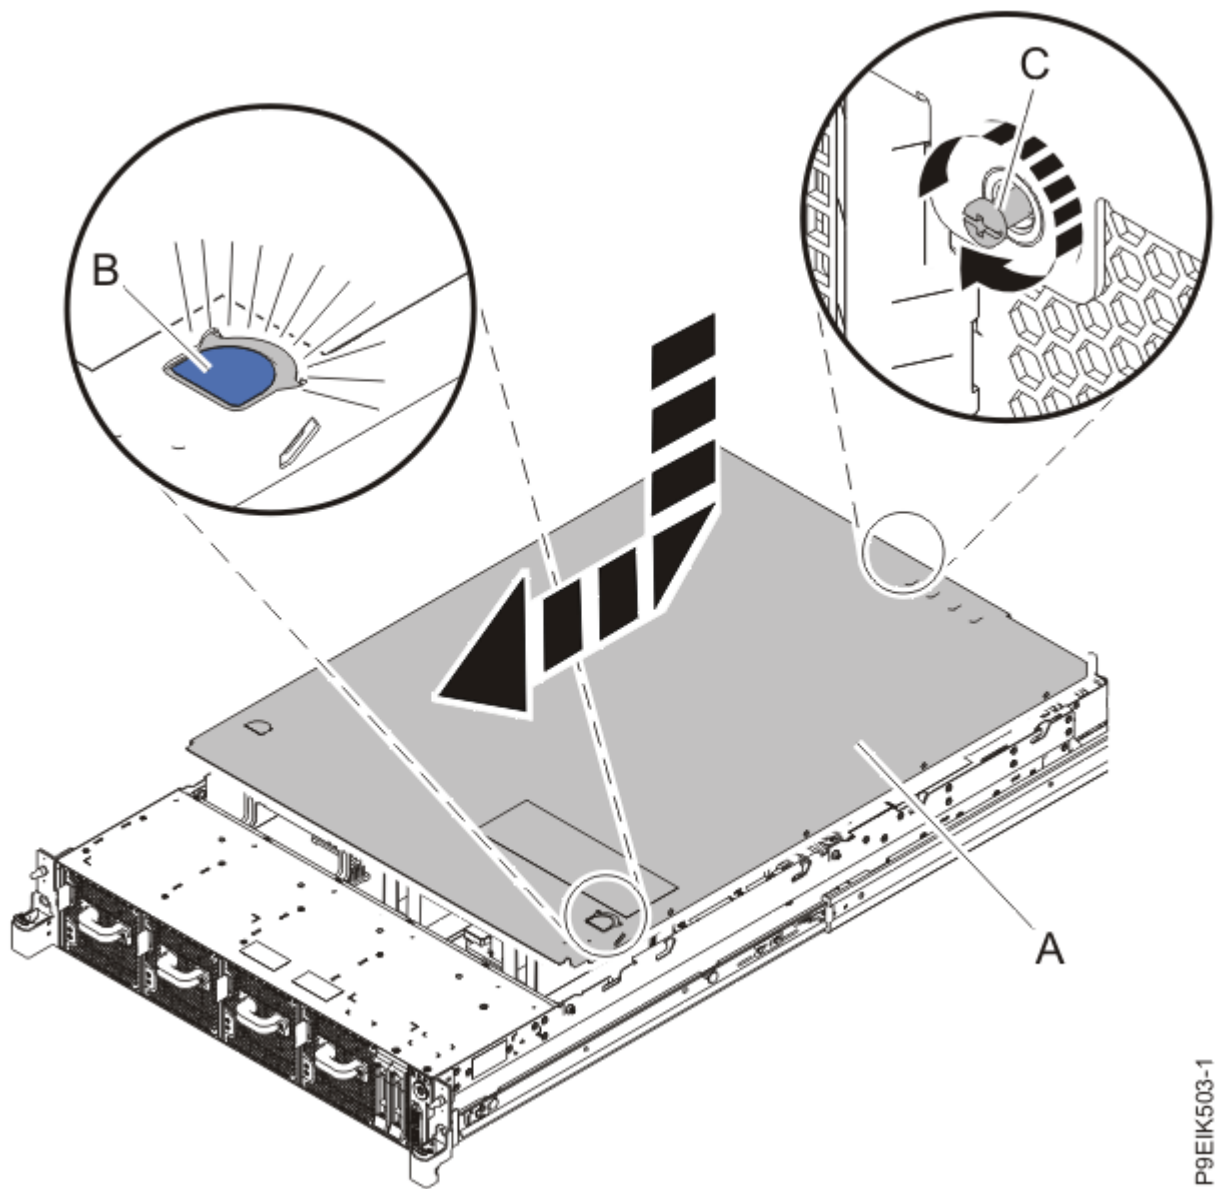

Figure 118. Installing the cover
1. Place the cover **(A)** on the system unit such that the alignment pins on the cover are aligned to the slots on the chassis. Slide the cover to the front of the system until the blue release latch **(B)** locks in to place as shown in Figure 118 on page 148.
2. Fasten the cover screw (C) at the rear of the cover.